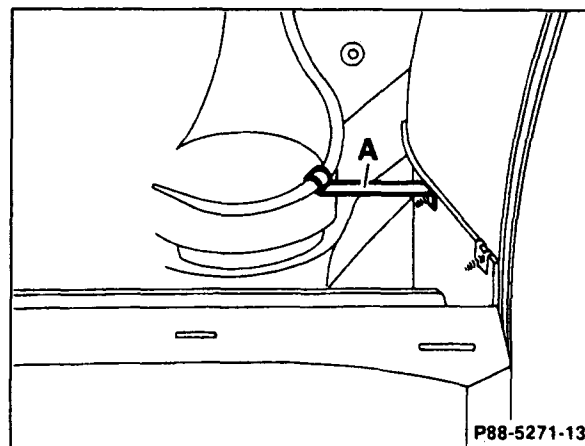

Figure 8
6. Position side skirt and secure in place using original mounting screws. Engage retaining bracket (A, Figure 8) in subframe bracket. Screw side skirt and inner wheel well liner to mounting bracket (A).